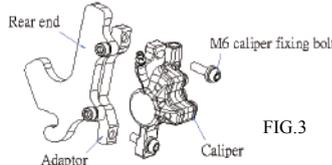

FIG.3
- 4-1. Install the calipers on the adaptor by M6 calipers fixing bolt (2pcs) loosely and let calipers be able to swivel left and right for adjusting its position. (As shown in Fig. 3).